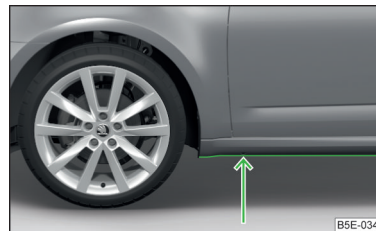

Fig. 248
- Therefore determine the depth of the water before driving through bodies of water. The water level must not reach above the lower edge of the lower brace » Fig. 248.